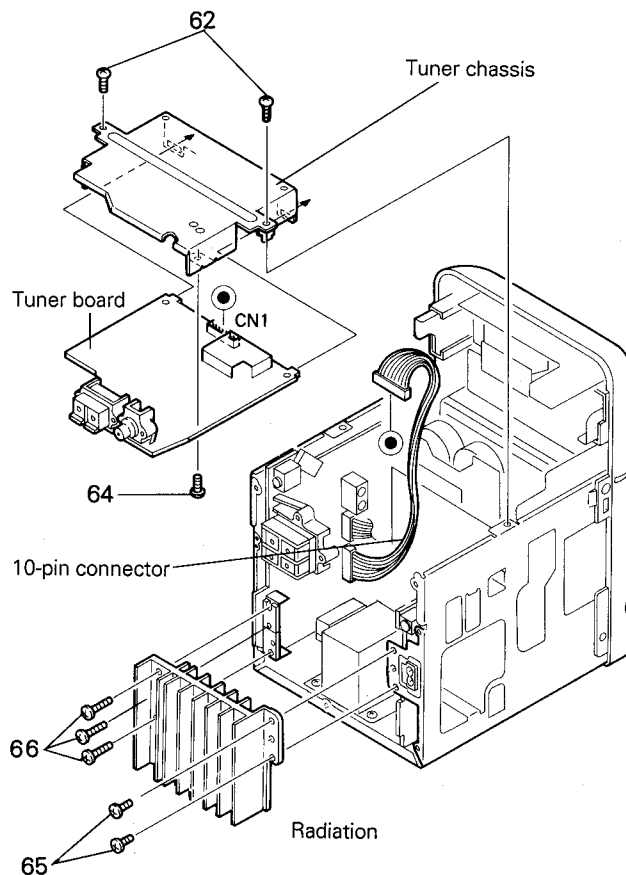

Fig. 7-10
■ Tuner board (Fig. 7-10)
1. Remove two screws (62) retaining the tuner chassis to the main unit.
3. Remove a screw (64) retaining the Tuner board and the tuner chassis from the back of the Tuner board.
■ Heat sink (Fig. 7-10)